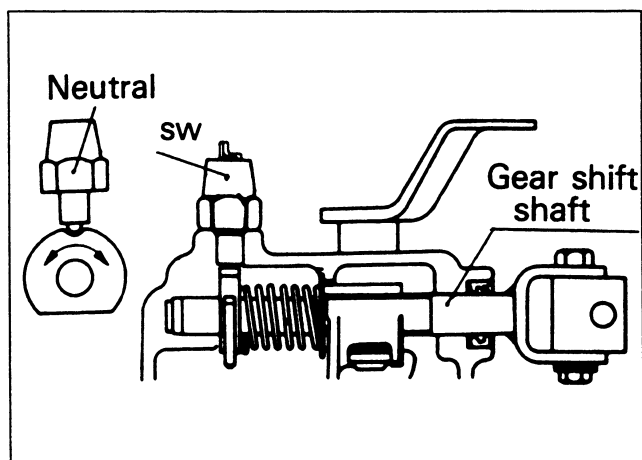

Figure 52. Neutral Switch
- Neutral switch from the transmission (figure 52).